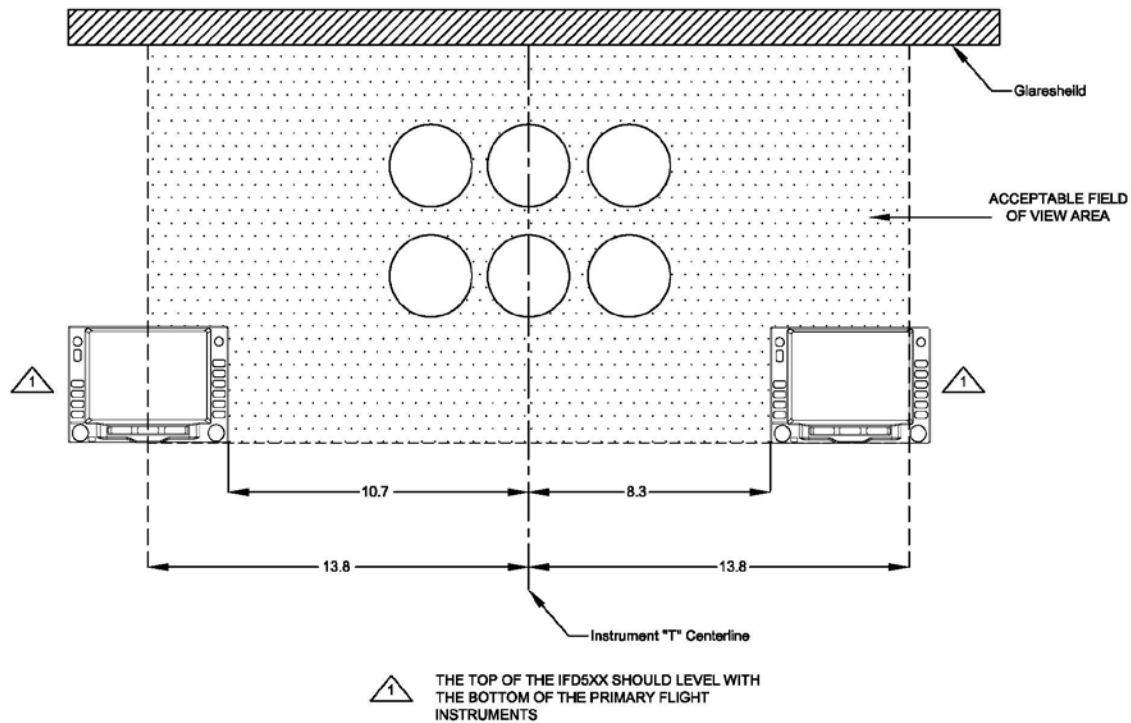
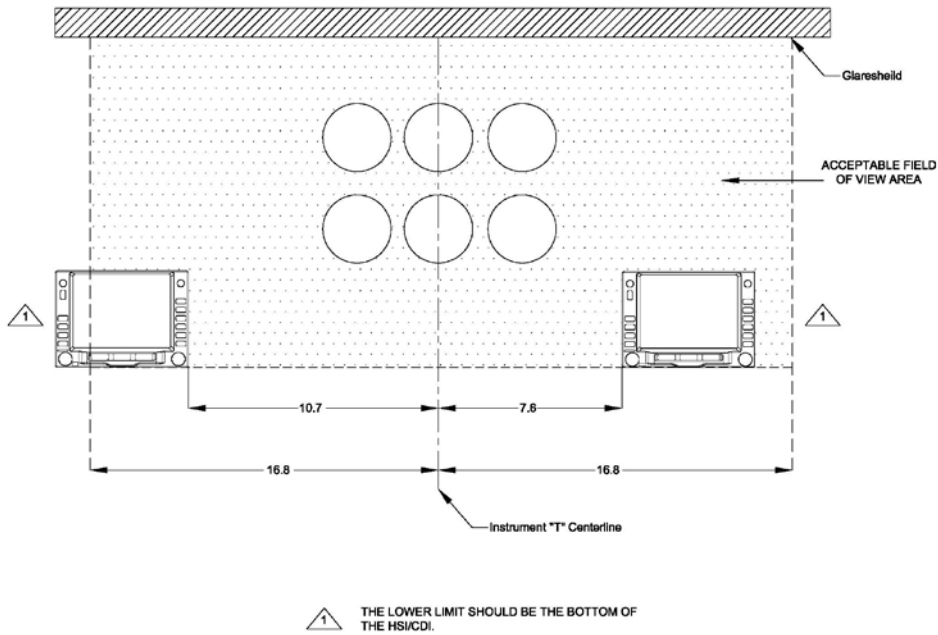

Figure 8 Field of View
Figure 9 Navigation Annunciation Field of View
The vertical field of view will be from the top of the instrument panel to the portion of the instrument panel that is immediately below the basic 'T' instruments, reference Figure 8. Note, if the existing type certified HSI/CDI/PFD is lower than the basic 'T', use that as the lower limit.
Figure 8 below indicates the acceptable field of view for the IFD5XX/4XX. If the IFD5XX/4XX can be installed in this area, remote navigation annunciation is not required. If the IFD5XX/4XX cannot be installed within the acceptable field of view, the installation must have navigation annunciations installed per Section 5.1.2.
Note: The dimensions shown in Figure 8 and Figure 9 for the IFD5XX also apply to the IFD4XX.
- If the IFD5XX/4XX is located within the acceptable field of view, as shown in Figure 8, external annunciation is not needed
- Install external annunciation lights in the acceptable field of view, as shown in Figure 9.
The navigation annunciators should be readable under all lighting conditions. The annunciators must be able to be tested prior to flight. The field of view in Figure 8 is based on $\pm 35^\circ$ from the Instrument "T" centerline at 24" aft of the panel.